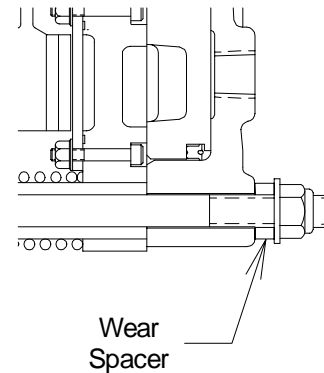

Fig. 12
- 4.1.3.11 The wear spacers are "stored" under the locknuts and washers for use after replacing the friction discs. See Figure 12.
4.2.16 The wear spacers are "stored" under the locknuts for use after replacing the friction discs. See Figure 12.